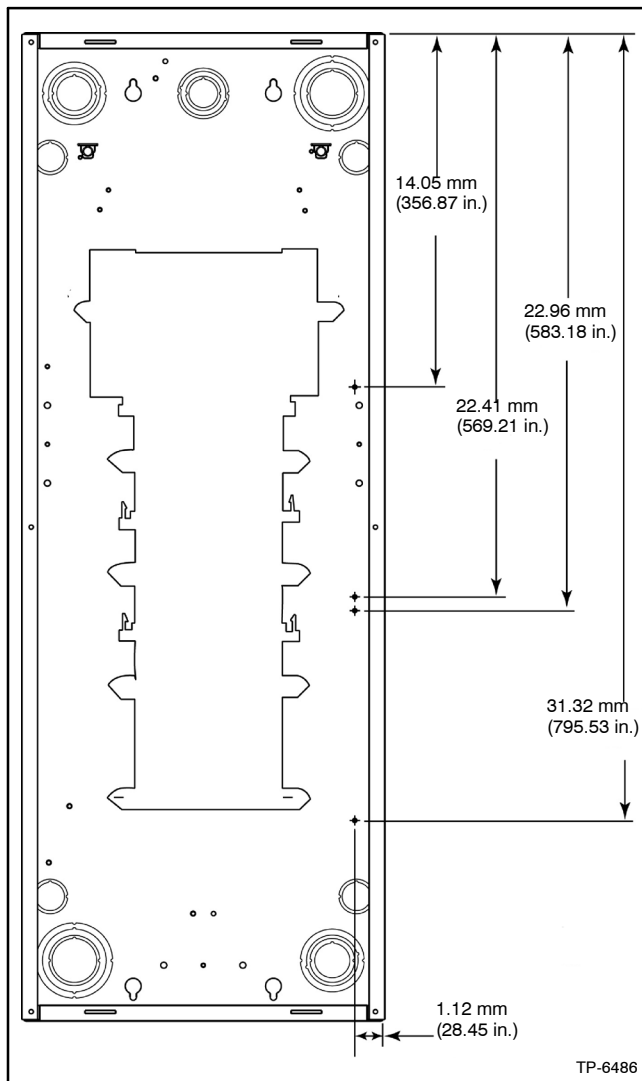
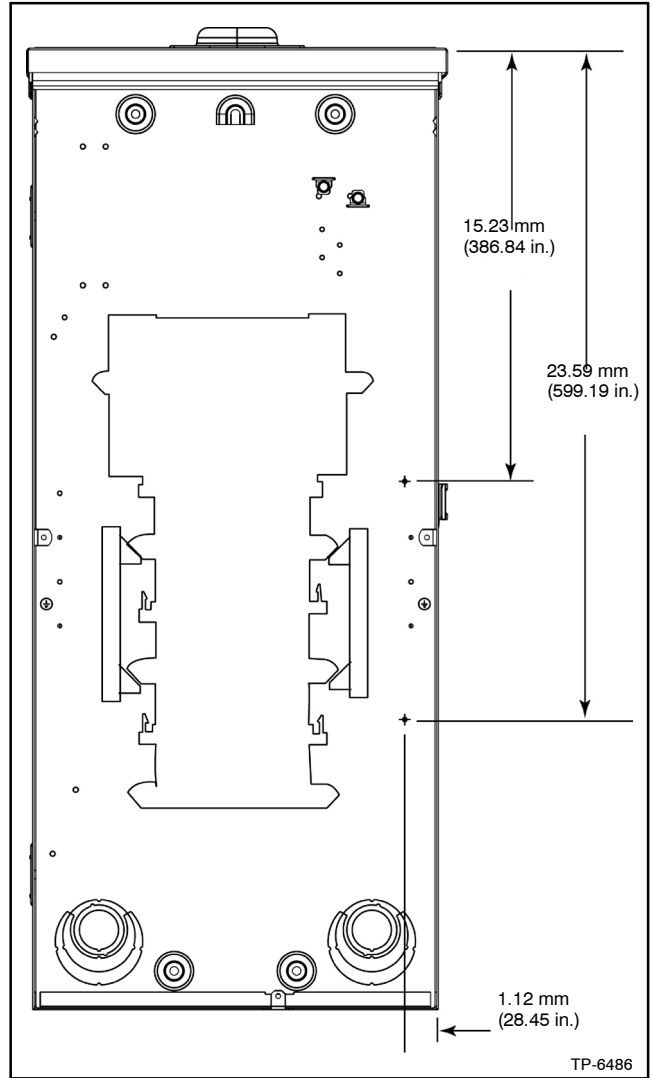

Figure 3 Drill Pattern, Type 1 Enclosures
Figure 4 Drill Pattern, Type 3R Enclosures
5. If the load center does not have predrilled mounting holes, use a drill and a number 28 (0.140 in.) drill bit to drill the appropriate number of mounting holes for the installation. Refer to Figure 3 or Figure 4 for the drill pattern.